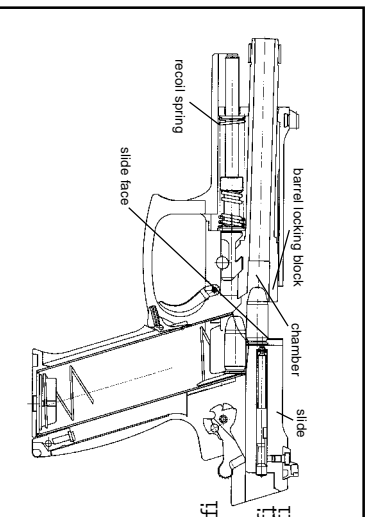

Figure 8 Feeding
F. Feeding - (See Figure 8) -The compressed recoil spring drives the slide forward. If the magazine is empty, the magazine follower will lift the slide release to a point where it will stop the forward progress of the slide. If the magazine is not empty, the face of the slide will make contact with the top round in the magazine. The round will be driven from the magazine towards the chamber. The tip of the projectile is guided into the chamber by the magazine lips until the round clears the magazine completely. At that moment the claw of the extractor snaps onto the rim of the cartridge case as it becomes parallel with the bore.